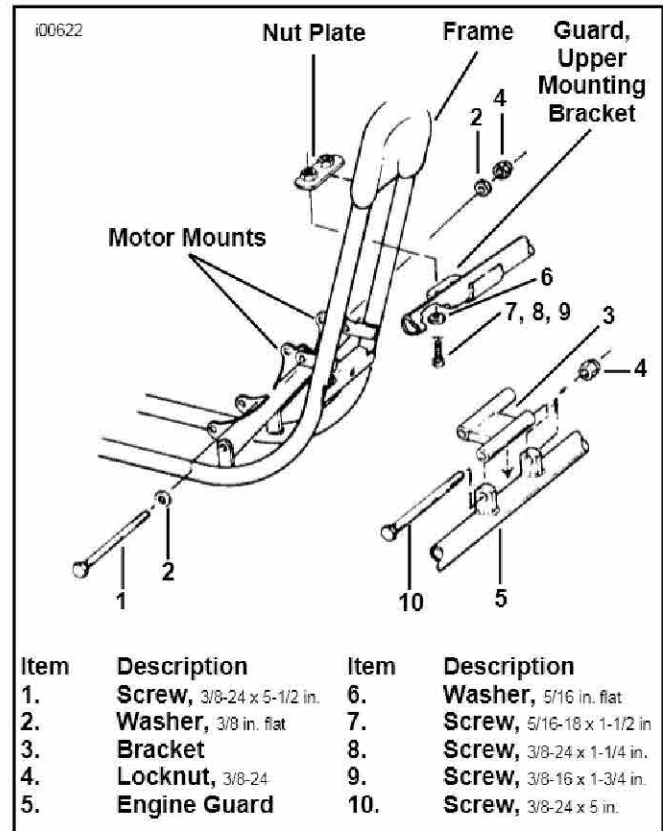

Figure 1. Disassembly/Installation (Alternator Models)
1. See Figure 1. From underside of steering head remove screws (7, 8, or 9) and flat washer (6). Discard original screws (7, 8, or 9) and washer (6).
3. See Figures 1 and 2. Place washer (2) on 5-1/2 in. screw (1). Insert screw (1) through one motor mount, through the offset end of bracket (3), and (with large offset toward jiffy stand side of vehicle) through the other motor mount. Place kit supplied washer (2) on end of screw (1) and secure with locknut (4). Be sure bracket does not pinch wiring. On 1986 and later models be sure bracket does not contact oil pressure switch.
4. See Figure 1. Position engine guard (5) upper mounting bracket under the steering head.